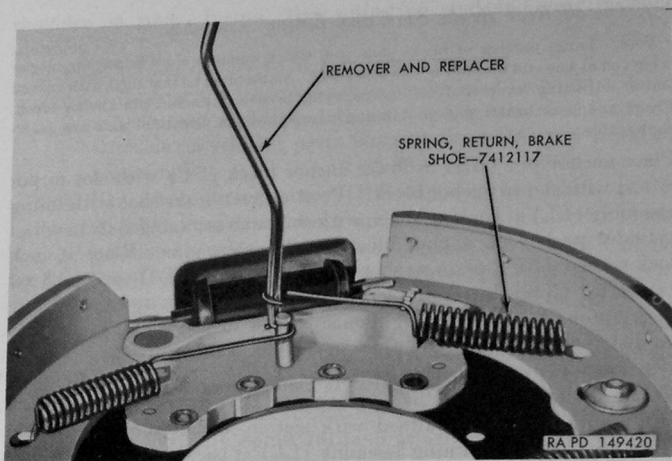

Figure 167. Installing brake shoe return springs with remover and replacer 41-R-2375-20.
*g. Install Front Brake Shoe and Lining Assembly.*—Refer to NOTE under *f* above. Place anchor pin (BB) in upper anchor block (CC) with slot in pin alined with slot in anchor block. Position front brake shoe and lining assembly (LL) at backing plate with shoe web engaging slots in wheel cylinder push rods, anchor block, and anchor pin. Insert guide bolt (V) through backing plate and brake shoe web, with square shoulder on bolt engaging square hole in backing plate. Install sleeve (DD), plain washer (EE), and  $\frac{1}{4}$ -inch lock washer (FF) on guide bolt; then install  $\frac{1}{4}$ -28 nut (GG) on guide bolt and tighten firmly.
*h. Install Brake Shoe Return Springs.*—Install brake shoe return springs (X), installing end of each spring in brake shoe web; then hooking springs onto return spring pins (JJ), using brake spring remover and replacer 41-R-2375-20 as shown in figure 167.
*i. Adjust Brake Shoes.*—Using a conventional ring type brake shoe gage, adjust brake shoes to a diameter of 14.870 to 14.885 inches before installing on axle. Adjustment is made by turning adjusting studs (M) at inner side of backing plate.